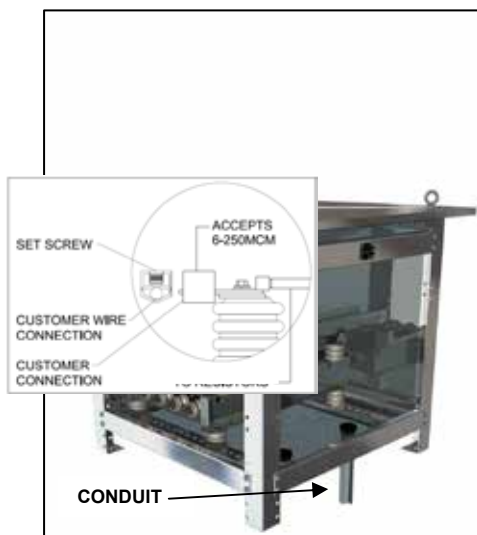

Figure 3: Bottom entry
1. For assemblies with bottom entering cables, the connection is made directly to the transformer's H2 terminal inside the enclosure via rigid conduit. The ground terminal is tagged for easy identification. A compression-type lug (or 2/4 hole pad) is used for the terminal connection. Location and termination of conduit is the customer's responsibility. (See Figure 3.)